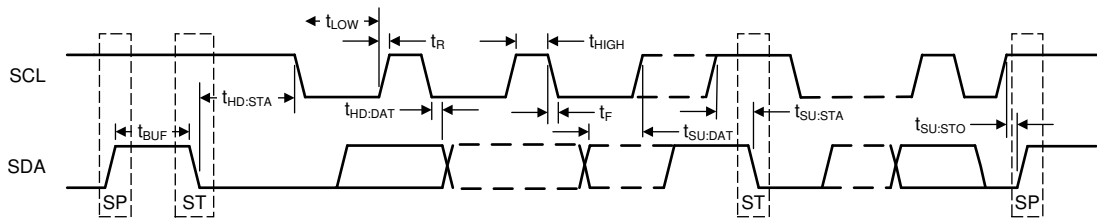

Figure 1. SMBUS Timing Parameters
- (1) These parameters support SMBus 2.0 specifications.
(2) These parameters are not production tested.
(3) See Figure 1 for timing diagrams.